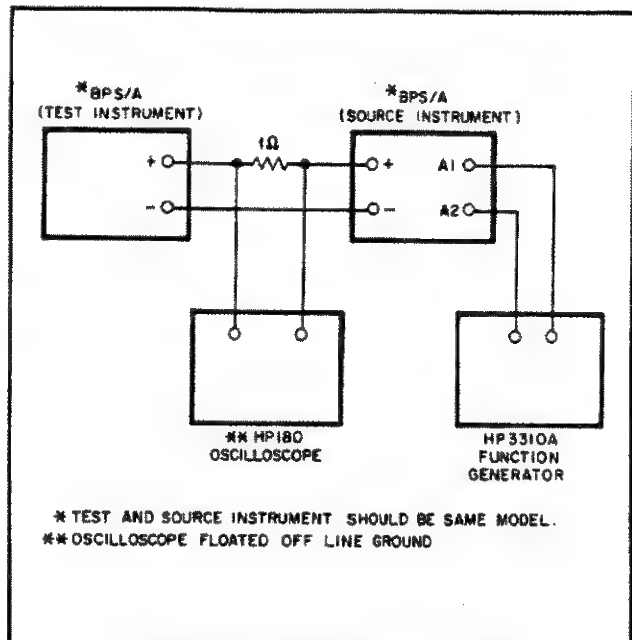

Figure 5-13. Current Sink Test Setup
- Turn off test and source instruments and connect test setup of Figure 5-13.